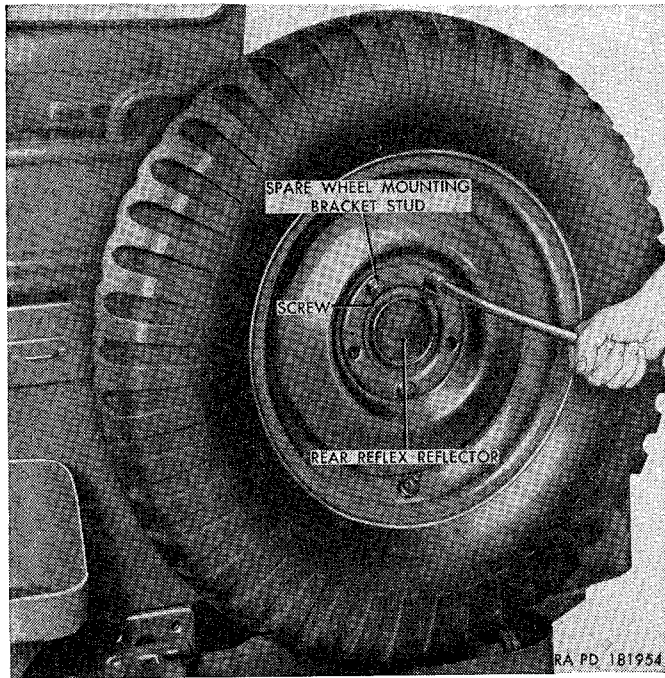

Figure 172. Spare wheel and tire (M38A1).
- (1) Remove the three nuts securing the spare wheel and tire to the spare wheel mounting bracket studs (fig. 172).
- (2) Remove the spare wheel and tire.